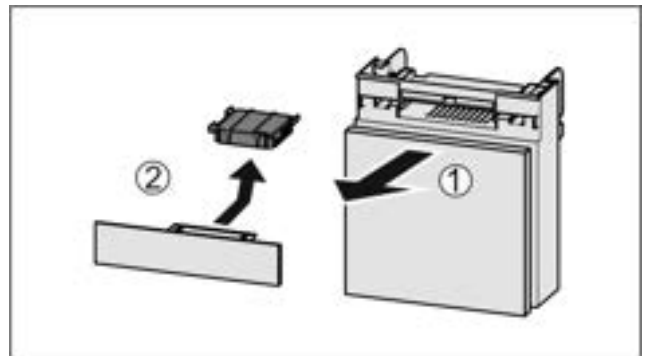

Fig. 75
- Pull out the compartment Fig. 75 (1).
- Remove the carbon filter Fig. 75 (2).